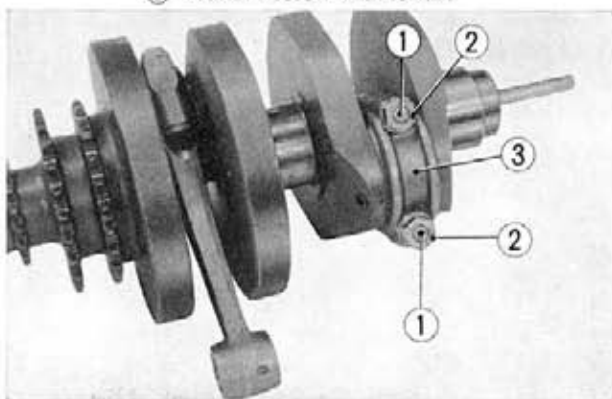

Fig. 3-77 ① Connecting rod bolts ② Connecting rod nuts ③ Connecting rod
16. Unscrew the connecting rod cap mounting bolts and remove the bearing cap from the large end, and then remove the connecting rod from the crankshaft. (Fig. 3-77)